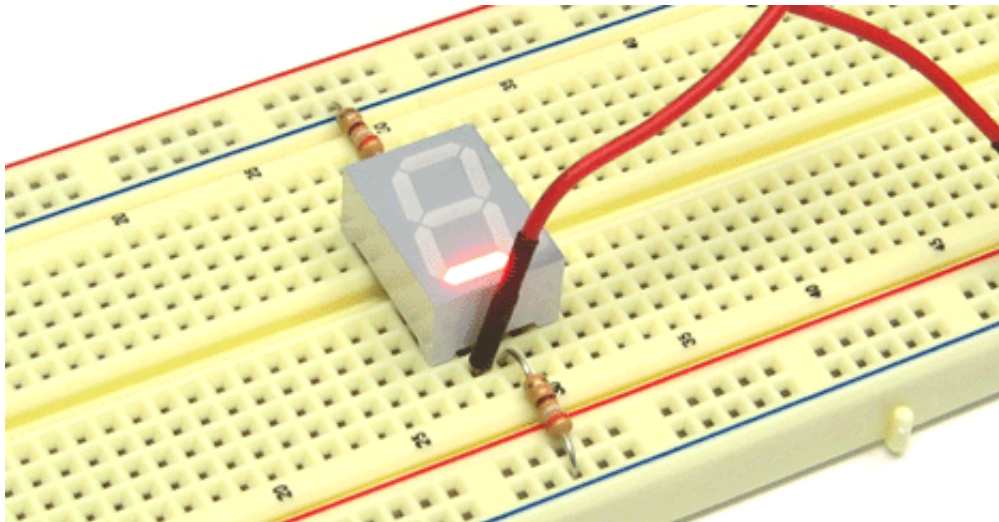

Figure 9. Flexible jump wire connecting power to pin 2, causing one segment to light.
- 3. Insert the other end into any open hole aligned directly above or directly below a pin on the seven-segment display, as shown in the video and in Figure 9. *NOTE: Do not let the tip of the jump wire touch either resistor!***